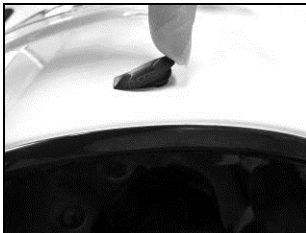

Fig. 30
- Remove the small N-Com cap positioned on the left side of the helmet. To make the operation easier, we recommend pushing the cap from inside the helmet (Fig. 30).